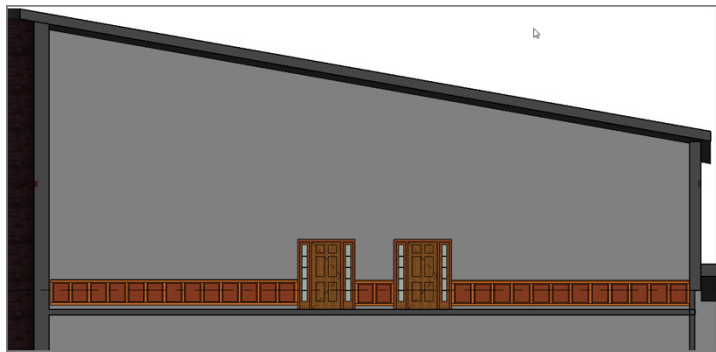

FIGURE 10.81: The finished raised-panel, line-based family
22. Change Visual Style to Realistic. Your elevation should look like Figure 10.81.